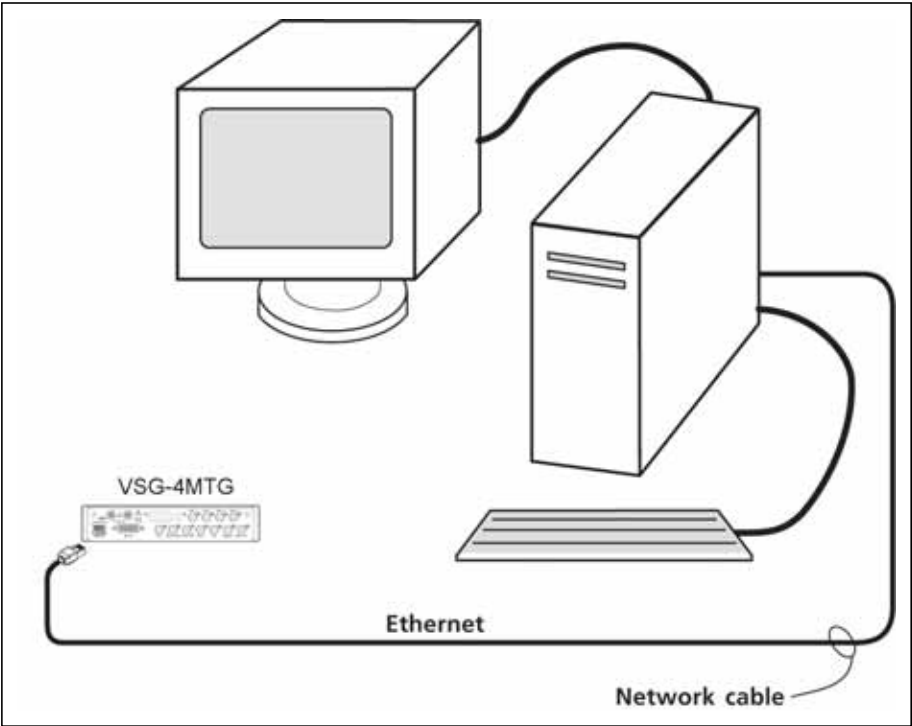

Figure 2-9 VSG-4MTG/VSG-4CSD Dedicated PC Connection
- For a dedicated PC connection, connect the host PC with a network card to the “ENET” connector on the back panel of the VSG-4MTG/VSG-4CSD, using a CAT5 network cable (not included). See **Figure 2-9**.